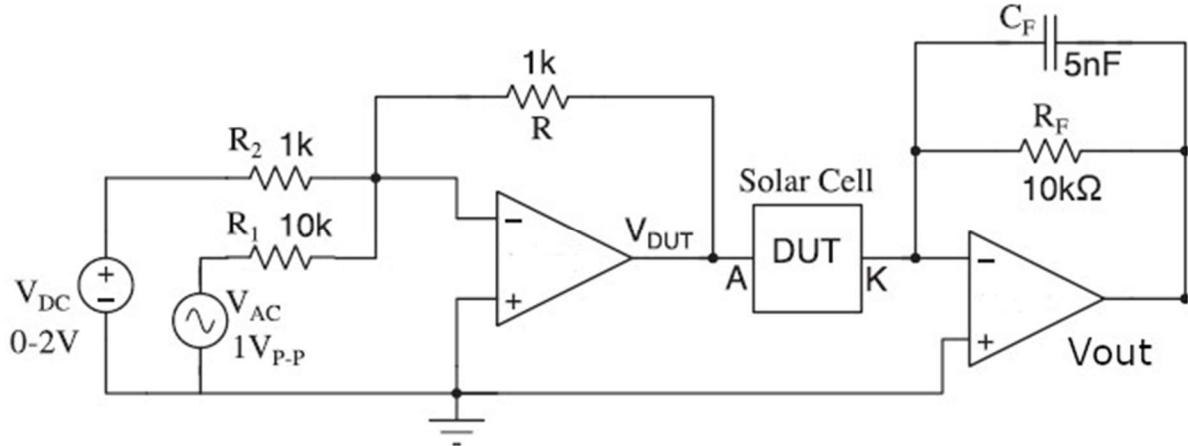

Fig.1 Circuit for CV data, where A is anode and K is cathode of solar cell(DUT)
The capacitance of the solar cell (Device under test, DUT) depends strongly on the applied DC voltage. Since the experiment involves measurement of the C-V profile of the capacitor, the circuit must also be designed to apply an additional DC voltage across the capacitor (solar cell) that can be varied, while measuring the AC current to extract the capacitance. In our setup, we apply a variable DC bias and a small AC signal (small enough not to perturb DC bias and not affect the charge polarization due to the DC bias) to the DUT. This is accomplished by using a basic inverting summing amplifier that adds the variable DC voltage (with unity gain R/R_2) and the small signal AC voltage (with attenuation factor $1/10 = R/R_1$), the output voltage of which is then connected to the DUT. The voltage V_{DUT} in Fig. 1 is thus given by the following equation:
1. 741 opamps are used to realize the circuit in Fig.1.
2. Check for the datasheet of 741 opamp on internet or advanced electronics lab manual, connect the power supply, make either non inverting configuration or inverting configuration as done in LABI(A) of advanced electronics lab and check both the given 741 opamps are working.
3. After confirming that 741 opamps are functioning, make the complete circuit as shown in Fig.1. on breadboard.